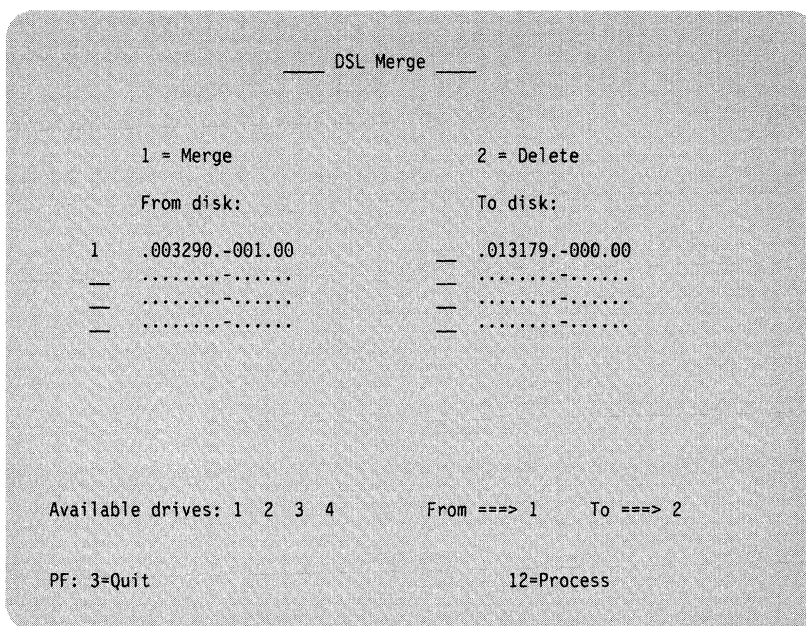

Figure 3-3. Selecting an Option on the DSL Merge Panel
- To merge a file from the *From* disk, type a **1** next to the file name. Press PF12 to process the option. See Figure 3-3.